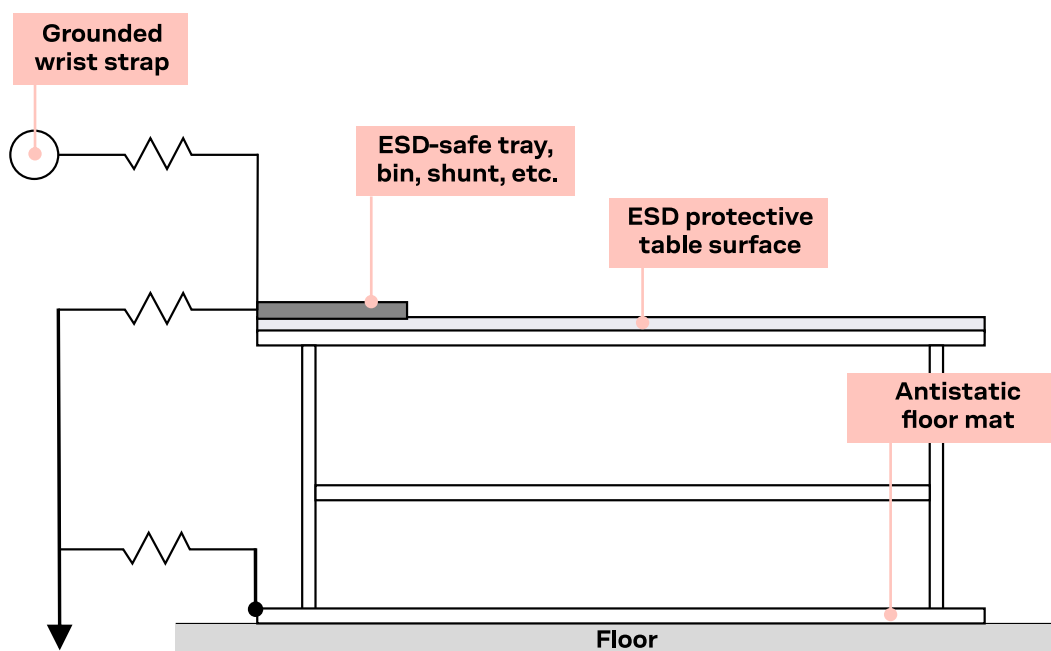

Figure 34: Standard workstation setup for safe handling of ESD-sensitive devices
- Open the package within an ESD-protected area (EPA), as in Figure 34.